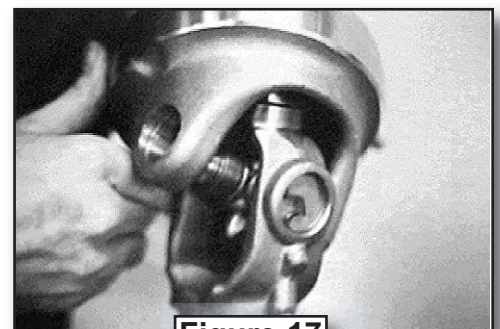

Figure 17
15. Rotate the center housing so the grease fitting is away from the shaft yoke. This will align the grease fitting in the center housing with the hole in the guards. The grease fittings in the center housing and the cross must be toward the same side of the assembly. Make sure the pin of the center plate in the center housing is clean. Install the pin in the ball and cross in the ears of the center housing (see *Figure 17*).